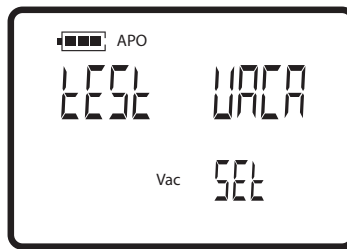

Figure 15
6. At **Main Screen (FIG 1)** press **TEST**. The **Test Vacuum Set Screen** appears (**FIG. 15**)